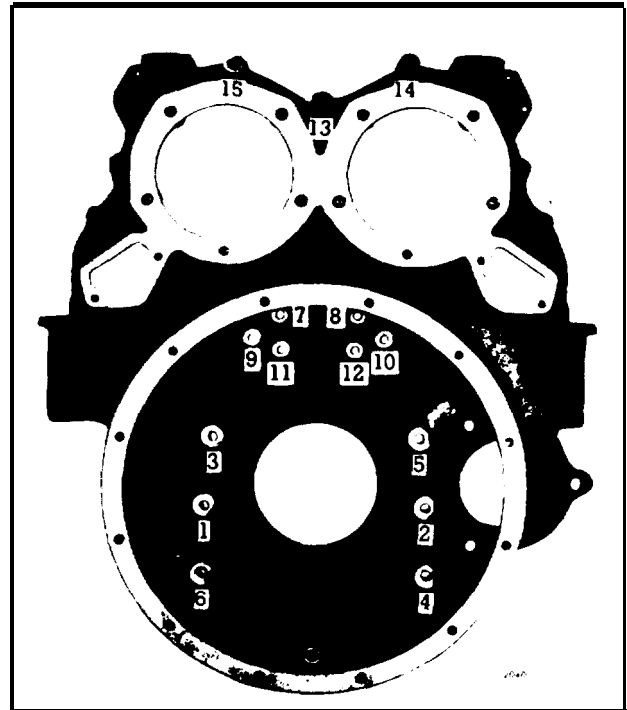

Fig. 6 - Flywheel Housing Bolt Tightening Sequence (Operation 2). InLine Engine
9. Refer to Fig. 6 for the final bolt tightening sequence on an In-line engine. Then start at No. 1 and tighten the bolts to the specified torque.